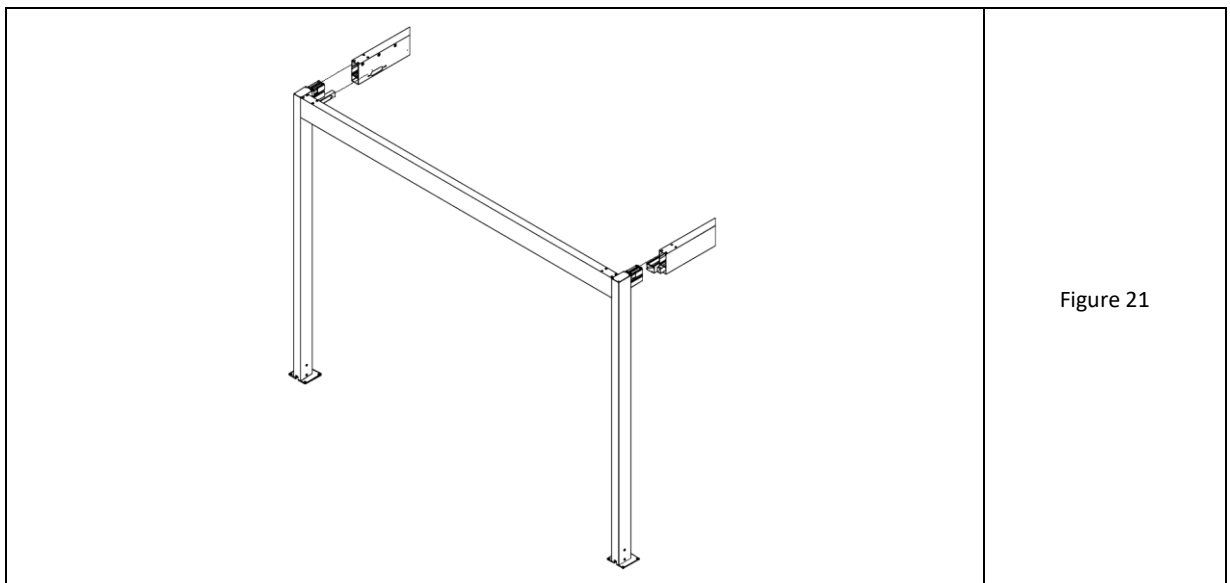

Figure 21
15. Slide the second cross frame over the free ends of the lengthwise beams (fig. 21).